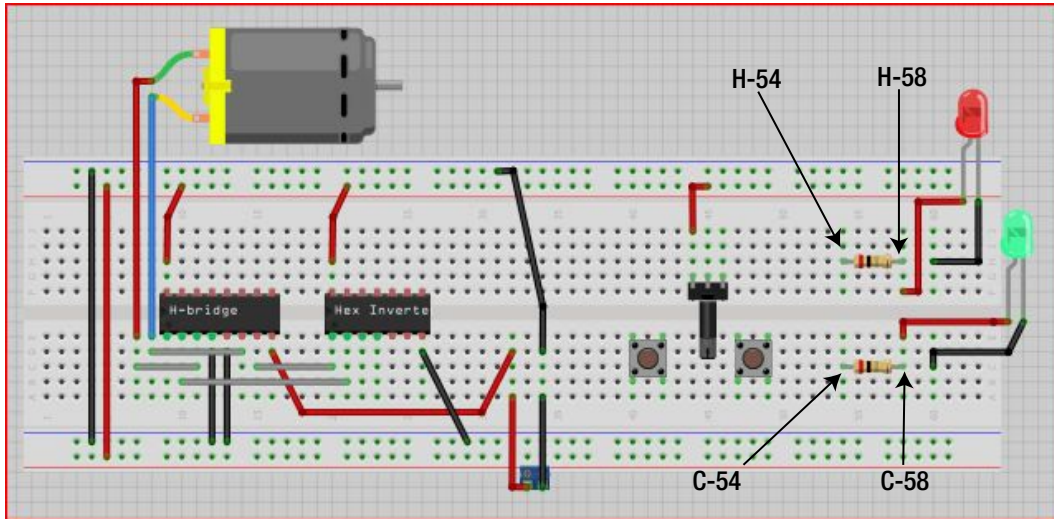

Figure 15-14. Attach resistors to the anode (long lead) side of the LEDs
20. Next, add a 330-ohm resistor to the anode (longer lead) of the red LED by inserting one leg at H-58 and the other at H-54, and then attach another 330-ohm resistor to the anode of the green LED at C-58 and C-54, as shown in Figure 15-14.